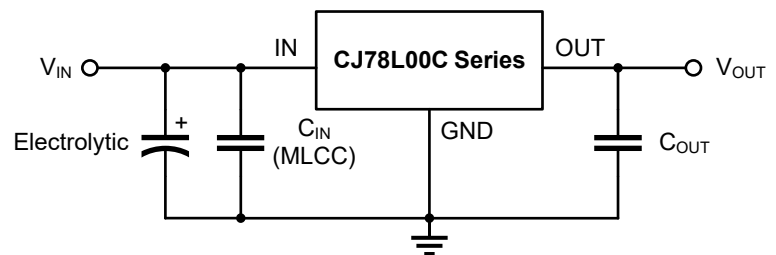

Figure 9-4. Electrolytic capacitor is used at IN
3. For the application circuit using the low ESR multilayer ceramic capacitor (MLCC) type input capacitor, the LC resonant voltage spike caused by hot plugging or power transmission line inductance can be suppressed by using RC suppression circuit for parallel connection of the input capacitor. A very simple method is to parallel a suitable electrolytic capacitor to the input capacitor. As shown in Figure 9-4. For most 100μF/25V electrolytic capacitor has an ESR of about 0.2Ω at 100kHz. This can completely suppress the overshoot phenomenon of the input and minimize the possibility of IC damage due to input voltage spikes.